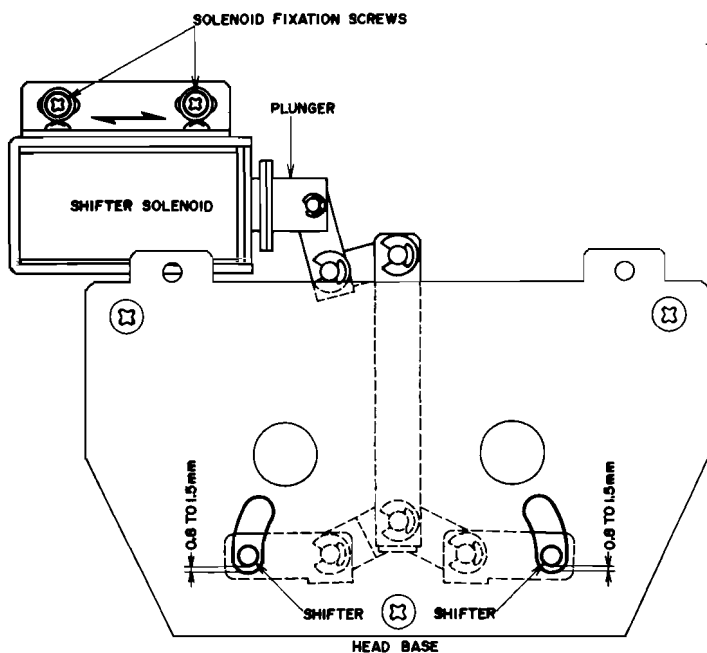

Fig. 17
5. SHIFTER SOLENOID POSITION ADJUSTMENT (See Fig. 17)